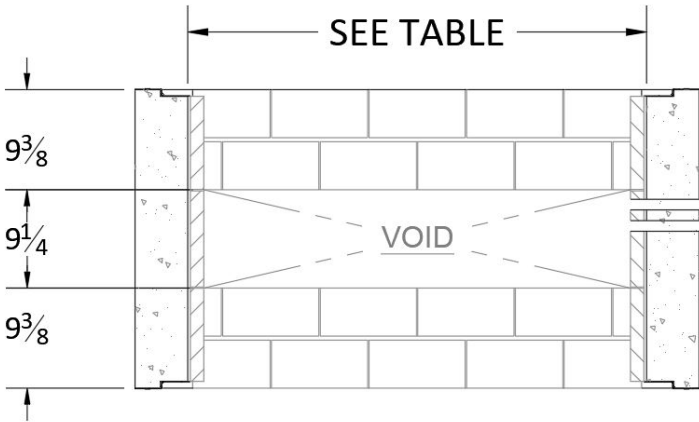

FIGURE 56
- 4) The 48” and 72” Maximus Linear See-Thru fireplaces (82L48ST & 82L72ST) will require the ISF36/60LB (respectively): Gas supply piping for these models shall terminate not less than 3” from sidewall. **(Figure 56, 57, 58)**
- 5) The 96” and 120” Maximus Linear See-Thru fireplaces (82L96ST & 82L120ST) will require the ISF72/96LB (respectively): Gas supply stub piping for these models shall terminate within 3” from center of the cavity. **(Figure 56, 57, 58)**